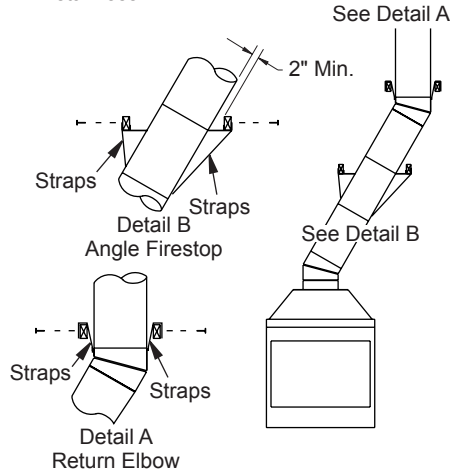

Figure 8 - Ceiling Support Pipe 12S-12DM
- Chimney weight above offset rests on return elbow. Straps must be securely nailed to rafters or joists (see Figure 8, details a and b).